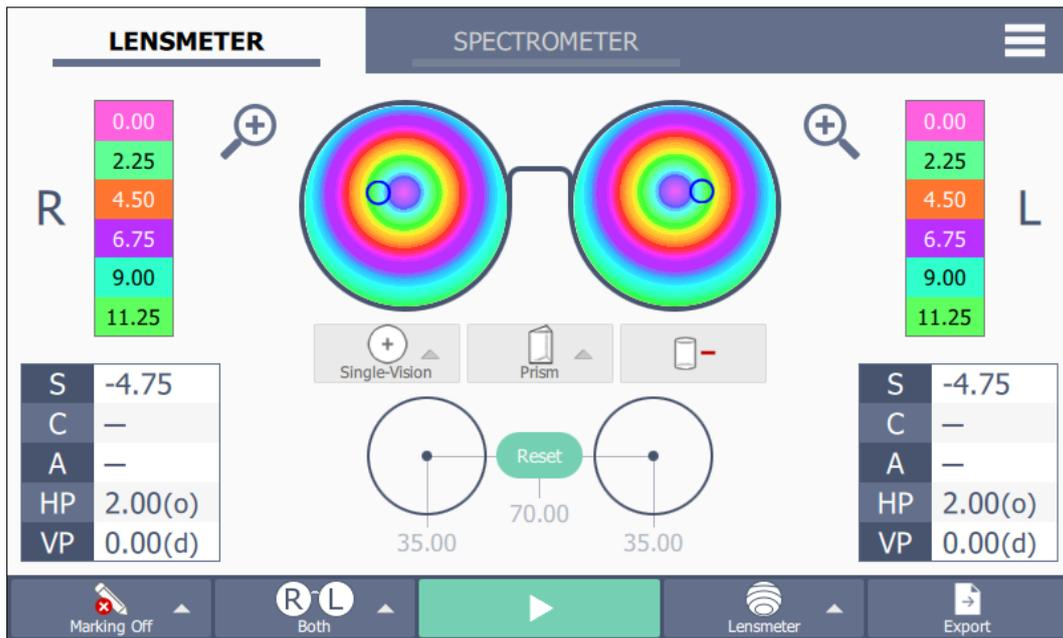

Figure 10: Spectacles view after editing pupil distance.
**Pupil distance editor:** by using the upper checkboxes the user can edit the right, the left or the total pupil distance. Use the slider or the plus/minus buttons to select the desired value from a minimum of 22.0 to a maximum of 45.0 mm for each side. The minimum step is 0.5 mm. Press OK to confirm and return to spectacles view (Figure 10). Far points on the map are moved to the new positions. In the data tables, the prism values at the new optical centers are presented.